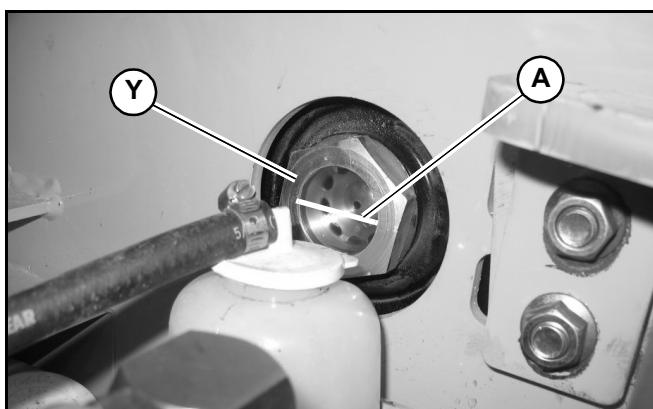

Fig. 98 – Hydraulic Oil Level Sight Gauge
4. Check the level of the hydraulic oil in the sight gauge (Y, Fig. 98) located in the right engine compartment wall. The oil level be in the middle of the sight gauge (A).